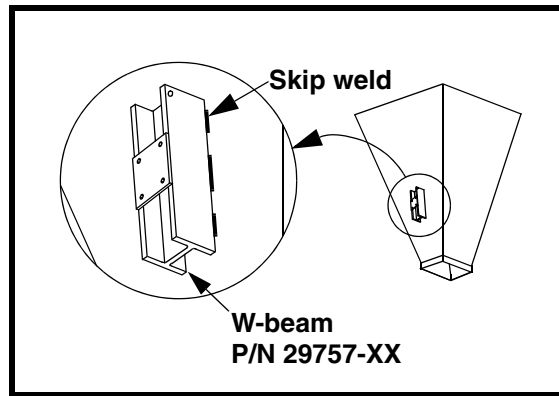

Figure 2. W-beam Mount
3. If using Martin® W-beam Mount (or equivalent) to mount vibrator onto structure (see Figure 2), do the following: